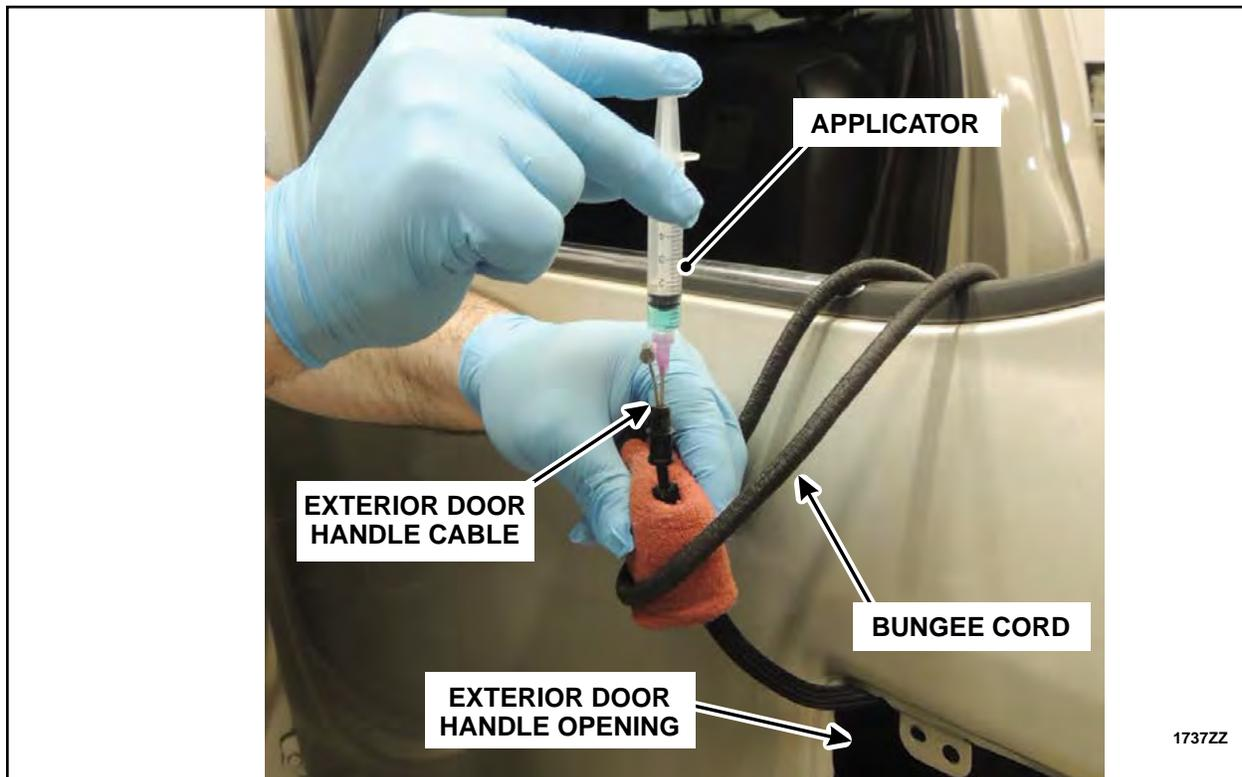

FIGURE 42
14. Towel dry the exterior door handle cable to absorb any residual moisture. Using a bungee cord or other similar device secure the exterior door handle cable to the door in an upward position as shown in Figure 42, to allow the undiluted Motorcraft® Premium Windshield Wash Concentrate (ZC-32-B2) or a 99 percent methyl hydrate (methanol) product time to run down into the cable, until the exterior door handle cable is reinstalled later in this procedure.